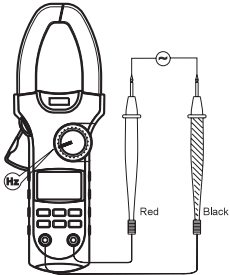

Figure 7
E.Measuring Frequency (See Figure 7)